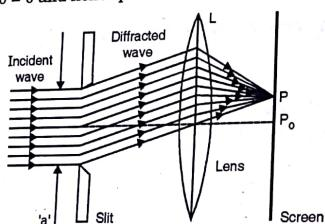

Fig. 3.4.1 : Fraunhofer Diffraction at Single Slit
- Consider a single slit of width 'a' illuminated by monochromatic light of wavelength  $\lambda$  as shown in Fig. 3.4.1.